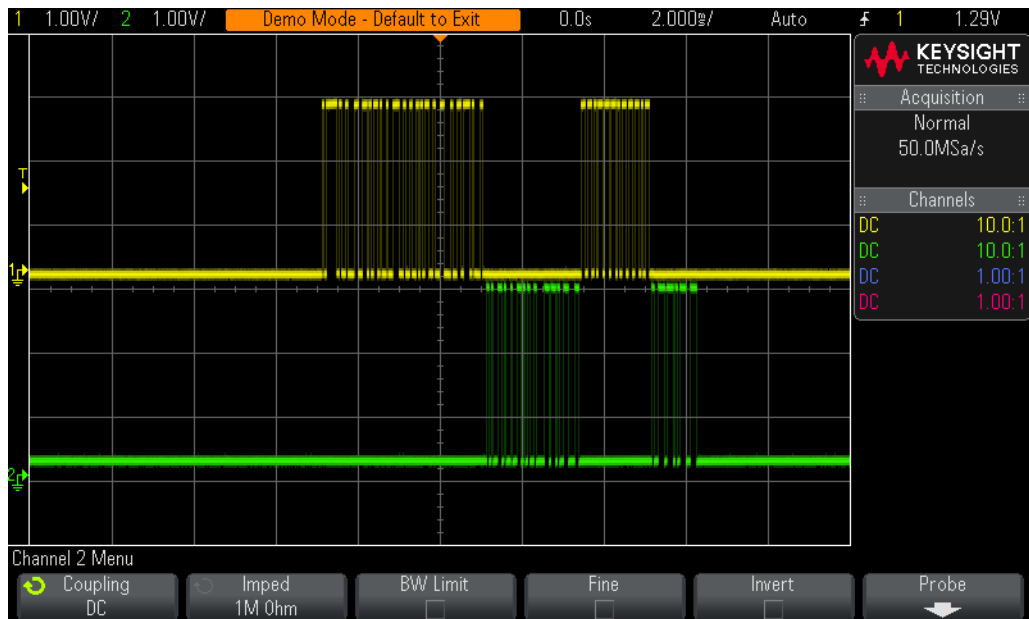

Figure 60 Capturing RS232/UART transmit and receive data signals using the scope's Edge triggering mode.
You should now see on your scope's display what appears to be an un-triggered display of two digital signals similar to **Figure 60**. Your scope is actually triggering on random rising edges of channel-1, which is the scope's default trigger condition. But these signals are too complex to establish a unique trigger point using simple edge triggering. The signal captured by channel-1 is an RS232 serial receive data signal (RX), and the signal captured by channel-2 is an RS232 serial transmit data signal (TX). Let's first set up the scope to intelligently decode this data stream based on the RS232/UART protocol, and then we will establish a more unique trigger point using RS232/UART triggering.